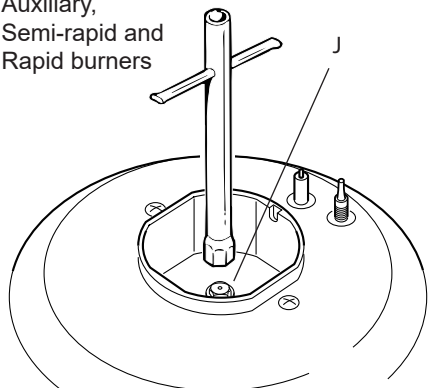

Fig. 2.5
- Using a wrench, substitute the nozzle injectors "J" (figs. 2.5, 2.6) with those most suitable for the kind of gas for which it is to be used.